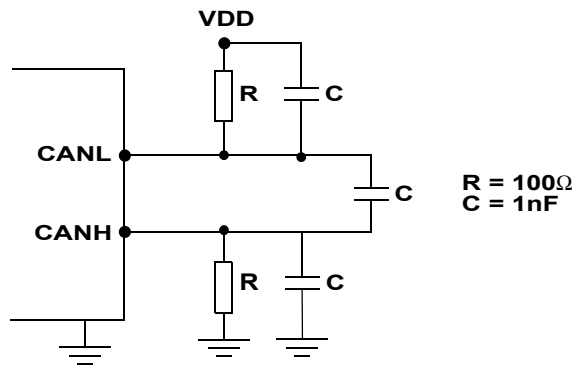

Figure 5. Test circuit for AC characteristics
25. AC Characteristics measured according to schematic Figure 5
26. AC characteristic according to ISO11898-3, tested per figure 5 and 6. Guaranteed by design, room temperature only.